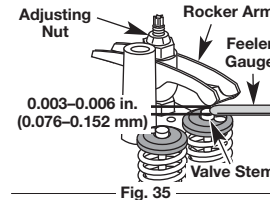

Fig. 35
- a. Turn the adjusting nut using a 5/16 inch (8 mm) wrench or nut driver (Fig. 35).